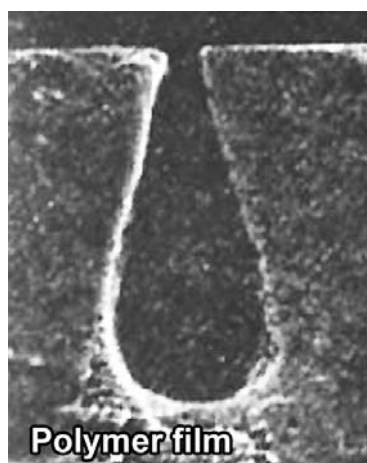

Fig. 1
- (e) Contact patterns on the graphene device are formed by electron beam lithography, whereby the sample is covered by an electron-sensitive polymer film. Exposure to a focused electron beam changes the solubility of the polymer, so that the exposed area can be selectively etched by immersing it in a solvent. Fig. 1 shows an etched cross-section of the polymer surface after a test exposure to a static electron beam.
- (ii) A polymer layer of much higher effective average atomic number relative to that of Fig. 1 is now exposed to the electron beam. Explain and sketch the expected cross-sectional shape of the etched polymer layer. [10%]